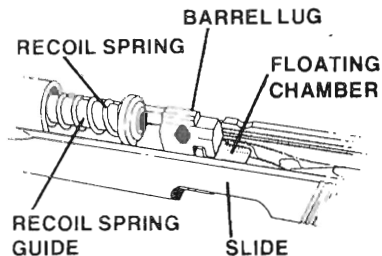

Figure 9 Removing Barrel
9. Lift recoil spring and guide and pull them rearward out of slide (See Figure 9).
12. Carefully align floating chamber with barrel lug and remove barrel and chamber assembly from the front of slide (See Figure 9).